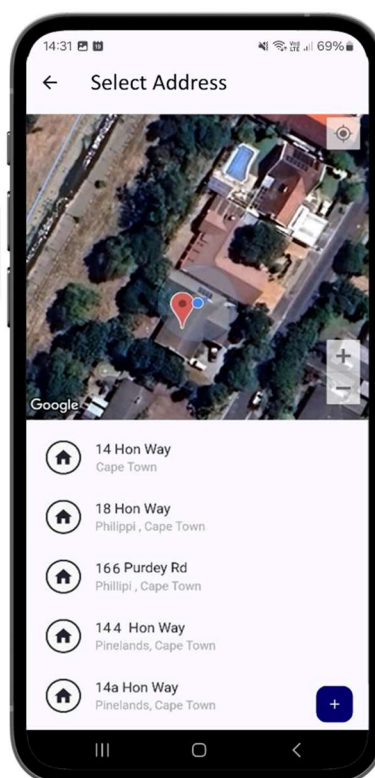

Figure 4.14 Select address
44. The app should connect to the server and obtain a list of addresses corresponding to your GPS co-ordinates (**Figure 4.14**). (You might need to switch on your phone GPS and allow the app to use your location services.)